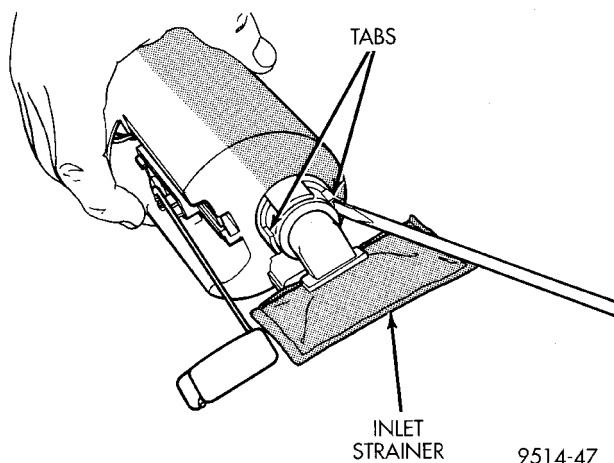

Fig. 21 Inlet Strainer Removal
(1) Remove fuel pump module. Refer to Fuel Pump Module Removal in this section.
(2) Using a thin straight blade screwdriver, pry back the locking tabs on fuel pump reservoir and remove the strainer (Fig. 21).
(3) Remove strainer O-ring from the fuel pump reservoir body.
(4) Remove any contaminants in the fuel tank by washing the inside of the fuel tank.